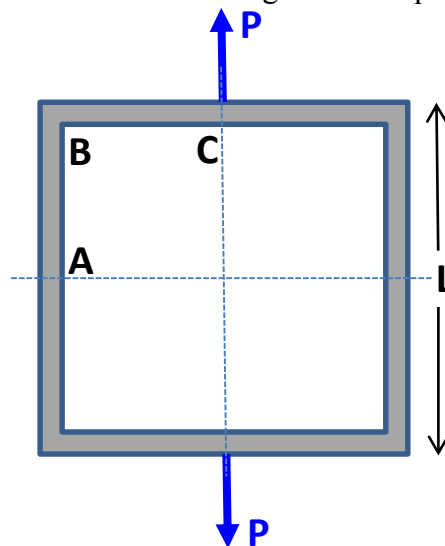

Figure 3
- (c) A statically indeterminate structure is in a form of a square steel member is subjected to symmetrical Point Loads, P , as shown in Figure 3. A quarter symmetry segment is indicated by the position of A-B-C. The length of the square edge is given as L .